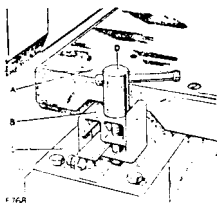
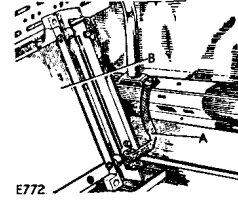

Fig. 114. Radio table
Fig. 120. Radio table earth braid
283. A table top (Fig. 114 (A)) to carry one or two radio sets is located immediately behind the driver's compartment seat rest. It is secured by four screw clamps (Fig. 114 (D)) to a pair of runner assemblies (Fig. 114 (B)) bolted to the vehicle body wheel arches. The table top is earthed to the vehicle by a copper braid located at the right-hand side.
- (2) Unscrew the four table top clamping screws (Fig. 114 (D)).
- (3) Slide the retaining brackets from the runners.
- (4) Release the table earth braid (Fig. 120 (A)) from its fixing at the right-hand forward stay of the slotted angle framework (Fig. 106 (1)) and lift off the table.